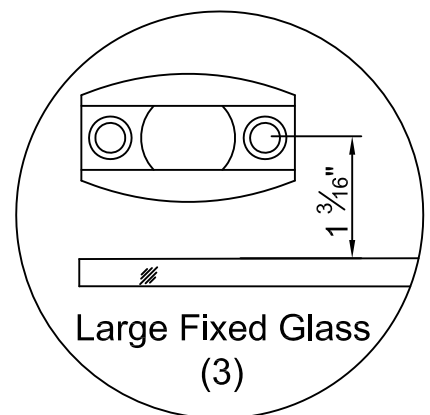

Fig. 22
22. Position the Sliding Door Track Divider (8) into position as seen in Fig.22 and mark the 2 shower base hole positions.
Note: In Fig.22 the hole locations for attaching sliding door track divider should be $1 \frac{3}{16}$ " from edge of Large Fixed Glass (3).
See Fig.22 for details.